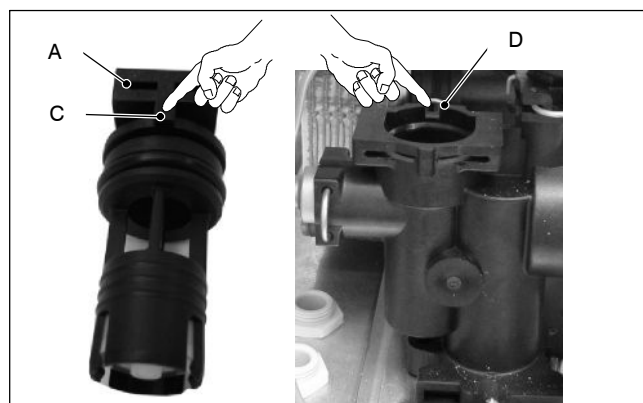

Fig. 16.3
**Attention.** When reassembling the By-pass valve be sure that it is correctly oriented by matching the reference C with the notch D of the water group Fig. 16.3